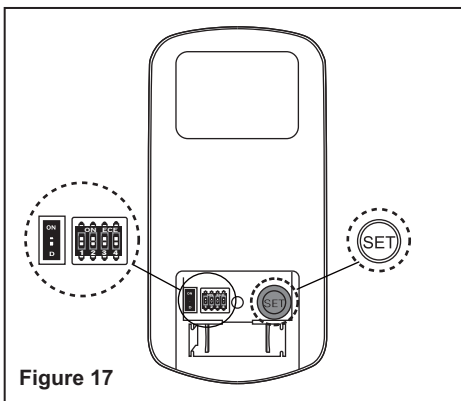

Figure 17
☼ button: Controls light. Switch the “D” and “ON” dip switch on the back of transmitter to decide the light in “ON/OFF” or “Dimmable” condition. (Fig. 17)
a) Select desired frequency from the transmitter. The dip switches can be set to 16 different combinations. (Fig. 17)
b) From the back of the transmitter, with the fan’s power off, restore power to the fan. Press and hold “SET” button for about 5 seconds and release. If optional light kit is installed, the light kit will flash twice and the signal light on the hand held transmitter will come on when the button is pressed. The fan has completed the pairing process with the remote control and is ready for use. (Fig. 17)